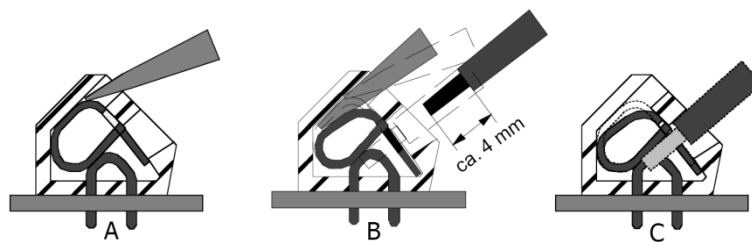

Fig. 4.11 Connection in screwless spring-loaded terminals
- Insert a size 1 screwdriver in the upper opening and insert it turning slightly upwards (Fig. 4.11 A).
- Now place the stripped connecting wire in the lower opening and hold it there securely (Fig. 4.11 B).
- Withdraw the screwdriver. The connecting wire is then firmly fixed (Fig. 4.11 C).
The insulation of the connecting line must extend as far as the terminal indentation, i.e. there must be no further bare part of the connecting line visible above the terminal edge (as shown in Fig. 4.11 C). Touching live parts is dangerous to life. The stripped part of the connecting wire should be shortened if necessary.